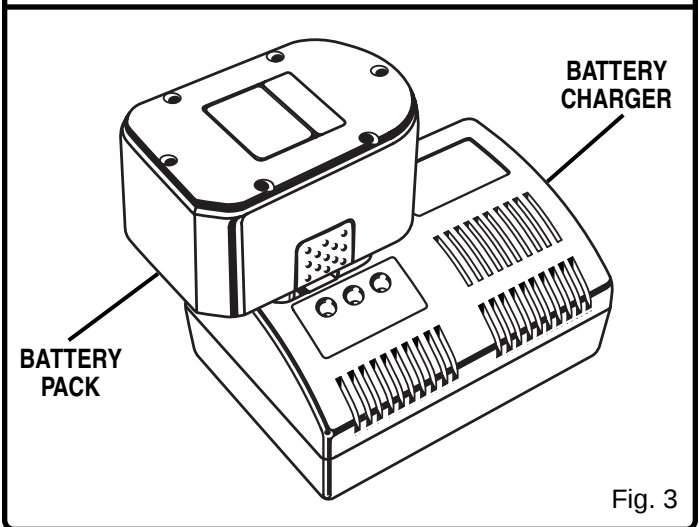

Fig. 3
- Place battery pack in charger. *See Figure 3.* Align raised rib on battery pack with groove in charger.